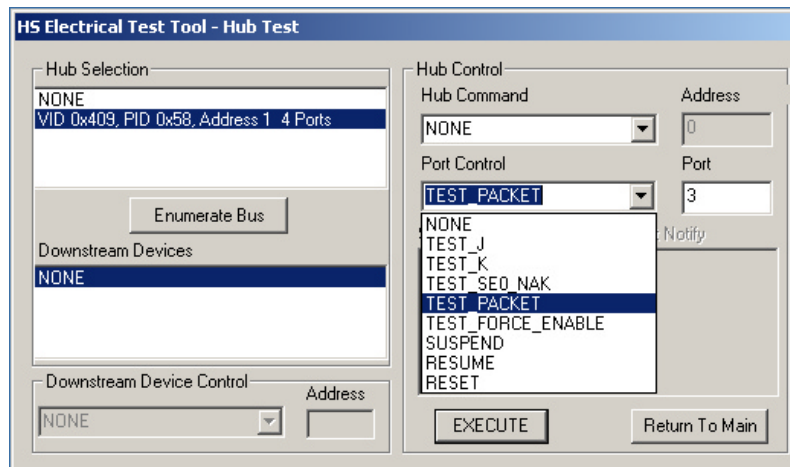

Figure 11. Hub Downstream TEST_PACKET
8. Select TEST_PACKET from the Port Control drop down menu. (Figure 11)